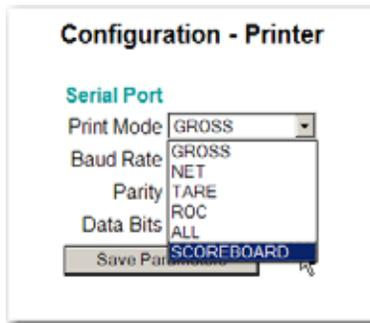

FIG. 209 CONFIGURATION - PRINTER PAGE/SELECTING PRINT MODE/SCOREBOARD
- Step 2. Click the right arrow until you reach the Configuration - Printer page. (See Fig. 209)